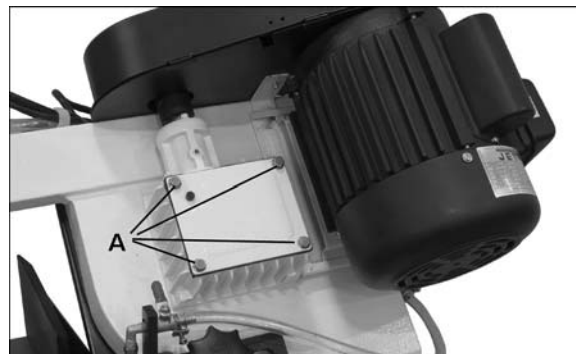

Figure 32
3. Remove screws (A, Figure 32) from gear box and remove cover plate and gasket.